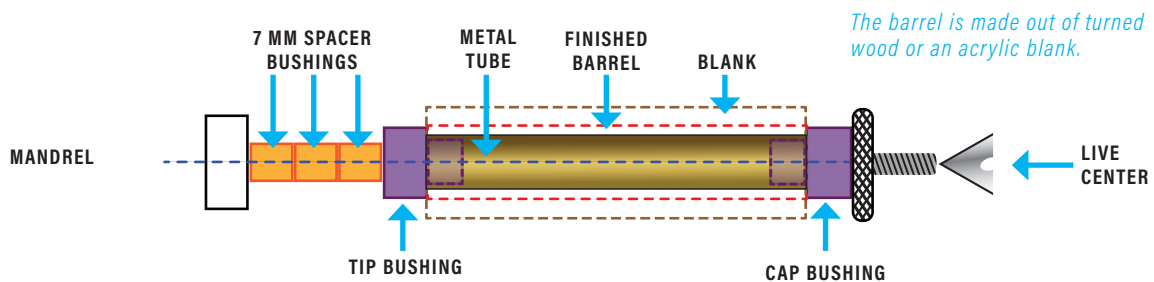

Fig. 3
- Mount the bushings and the blank on the mandrel as shown in figure 3.